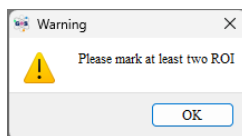

Fig.42: If fewer than 2 ROIs are marked during automatic calibration, a prompt will pop up.
- At least two ROI must be selected in the spectrum to apply the automatic calibration. Otherwise, a prompt saying 'Please mark at least two ROI' will appear, as shown in Fig.42.